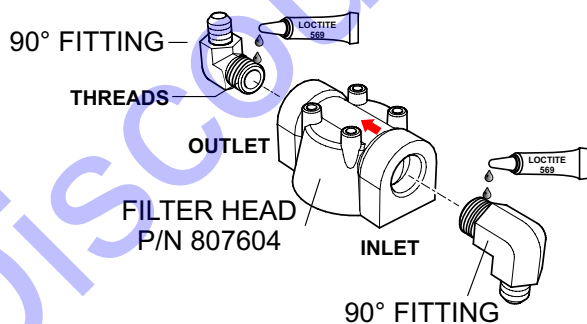

Figure 9. Attaching 90° Fittings
1. Apply Loctite hydraulic sealant 569 or equivalent to the threads (Figure 9) on 90° fittings that were removed earlier.
2. Next, insert the 90° fittings (Figure 9) into the **inlet** and **outlet** ports on the filter head.